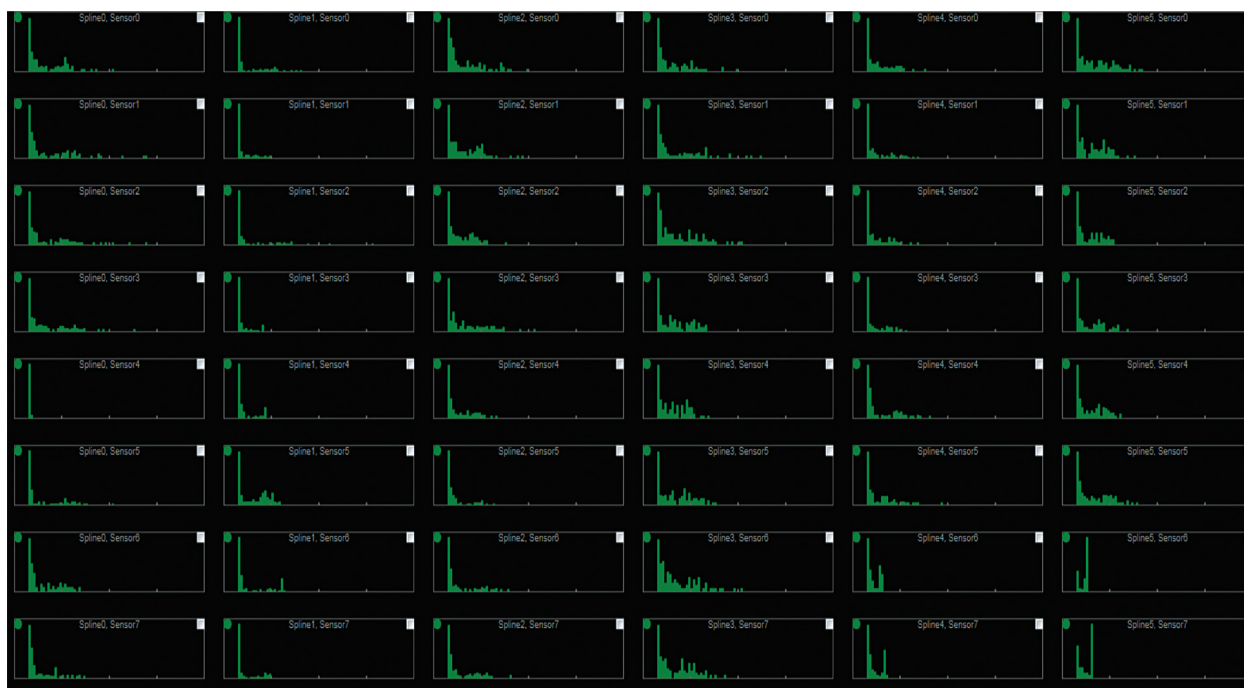

Figure D-6. Example of asynchronous noise displaying as a skewed distribution.
6. The Ultrasound detection gain and threshold are configured for typical operation. On occasion, the gain or threshold settings may be overly sensitive and noise will be detected immediately after the end of the minimum reject interval. With asynchronous noise, the errant, detected ranges will be exhibited as a skewed distribution (*Figure D-6*), with a hard limit on the left-hand side at the minimum reject interval.
NOTE: The hard limit on the left is consistent from channel to channel in the plot in *Figure D-6*. This is a clear indication of a high level of noise being detected. Detection gain and threshold should be adjusted to reduce this behavior. Nodes marked as “excluded” should be entered in the “Excluded Ultrasound Channels” list under the Build menu.